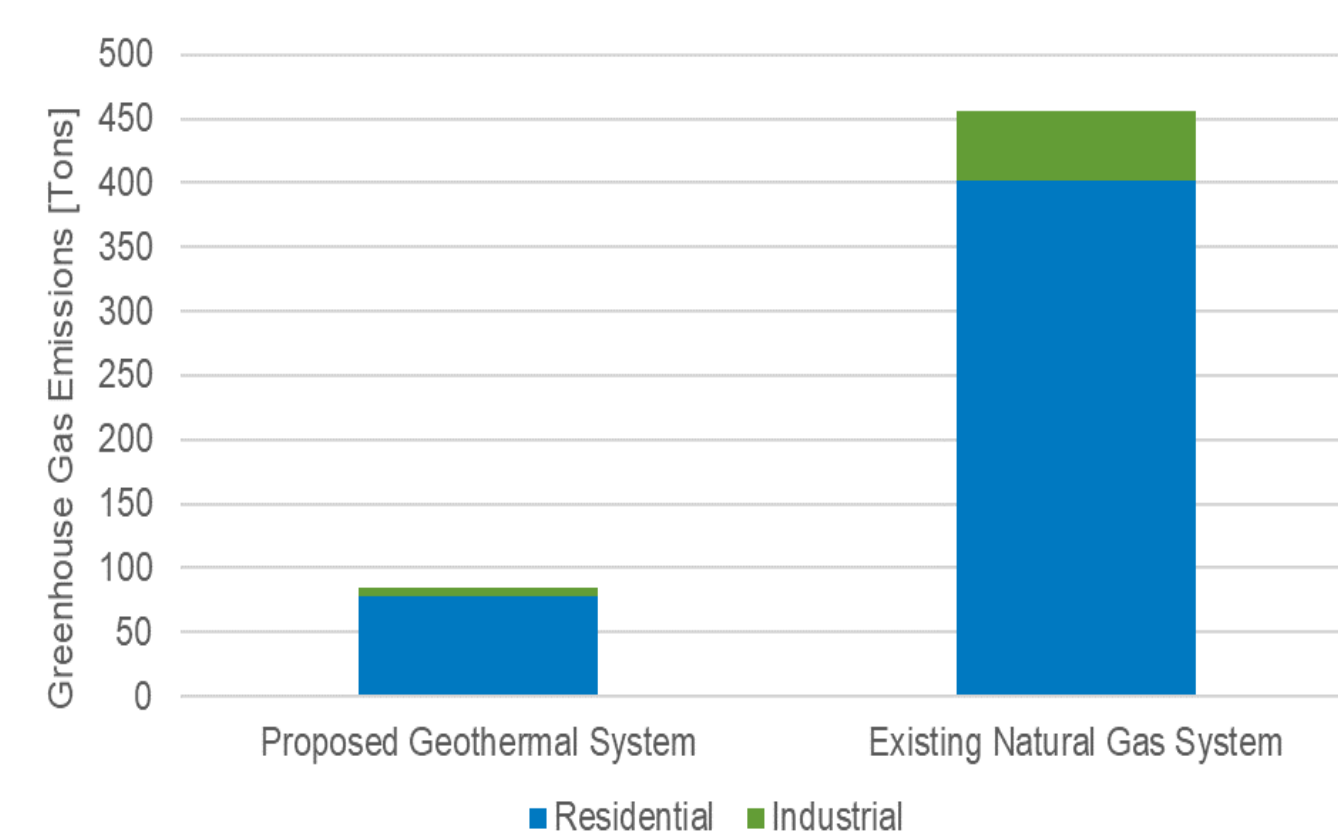

Figure 5. System CO₂ Emissions (Tons)
- Figure 5 shows the carbon emissions from the proposed geothermal network to an existing natural gas system.